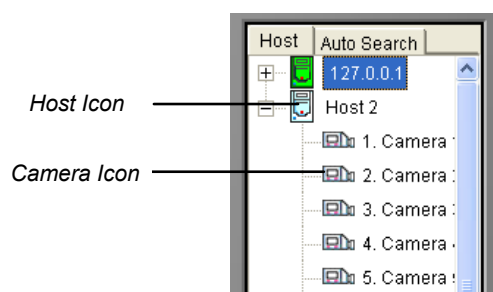

Figure 8-35 The Host List
6. Click the **Save** button. The host will appear in the Host List (Figure 8-35) with the given ID name.
4. To set up each camera channel of the Multiple Hosts, click the **Edit** tab one at a time. Alternatively, you can click and drag the created camera channel from the Host List (Figure 8-35) to each **Edit** tab. Note that all created camera channels must be added to each **Edit** tab in the order of 1 to 32.
1. Select a PTZ capable camera from the monitoring window, or double-click it on the Host List (Figure 8-35).